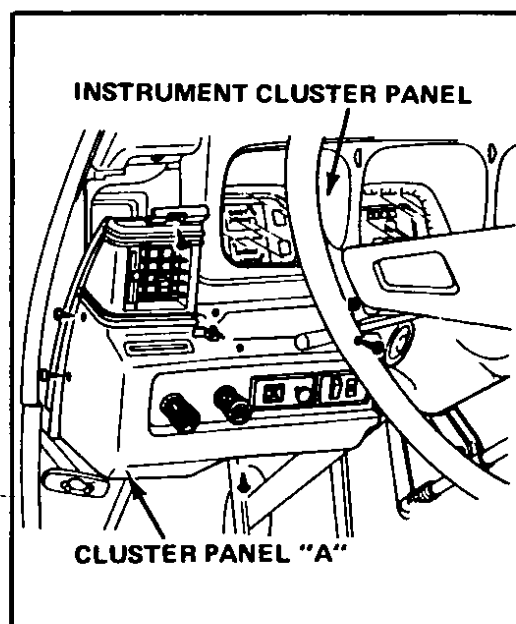

*Fig 89 Instrument cluster panel
- 2 Remove the instrument cluster panel, Fig 89